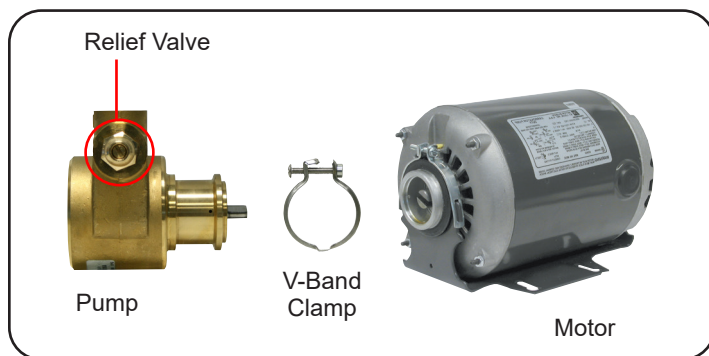

figure 6
3. Remove the V-Band Clamp. **(Fig. 6)**
1. With the unit running turn the slotted screw inside the Relief Valve counterclockwise until pressure gauge reads 100 PSI. **(Fig. 6 & Fig. 7)**